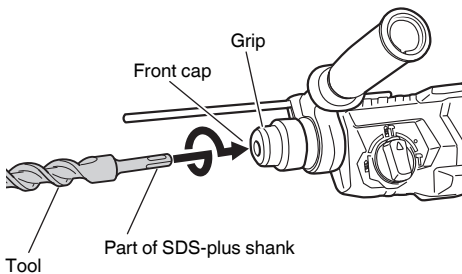

Fig. 1
### 4. Mounting the tool (Fig. 1)
- (1) Clean the shank portion of the tool.
- (2) Insert the tool in a twisting manner into the hole of front cap until it latches itself (Fig. 1).